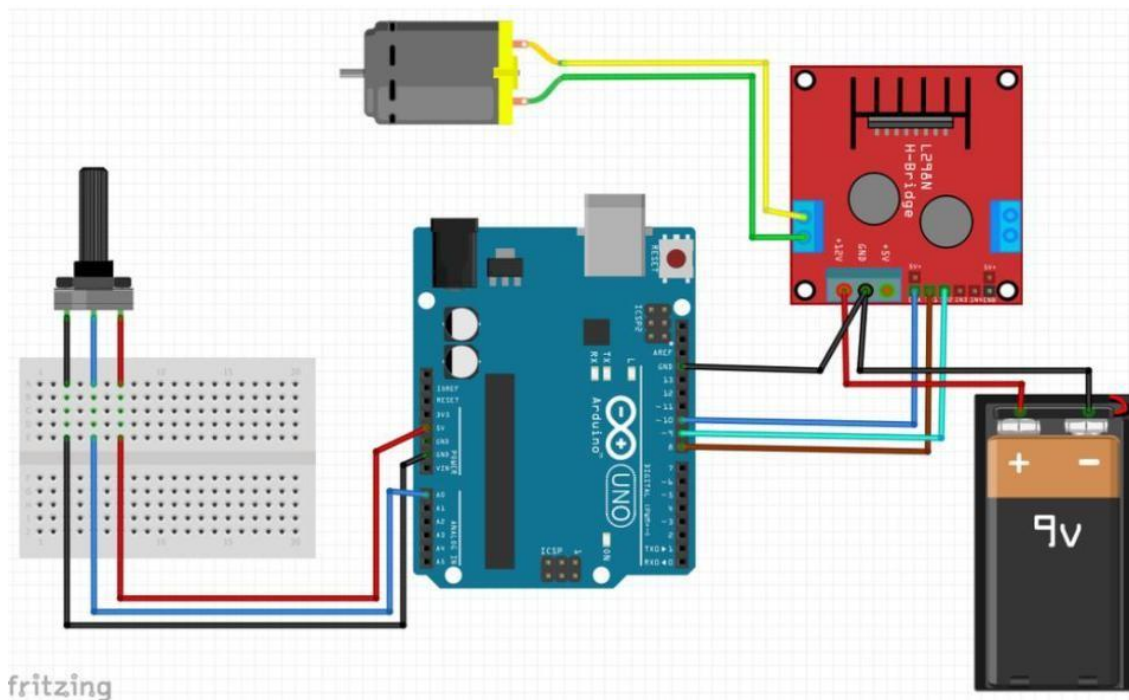

Figure-5: Setup for speed control using potentiometer
5. A potentiometer was used for speed control where the Vcc and GND of POT was connected to the 5V and GND pin whereas the output pin of the POT was connected to the PWM pin A0 of the Arduino board as shown in figure-5.